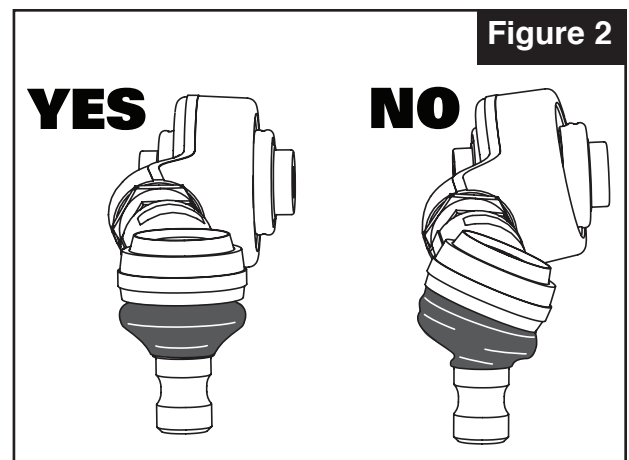

Figure 2
11. After adjustment is complete, tighten lock nuts on each hex adjuster. Make sure ball joints remain centered in housings to ensure adequate articulation throughout suspension and steering travel. See **Figure 2**.